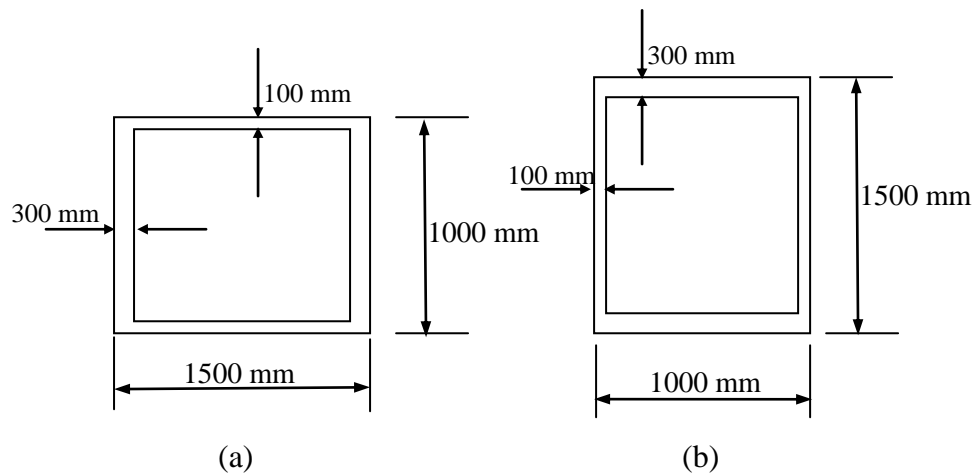

Figure 5
- (b) Girder with the sectional shape as shown in Figure 5(a) and (b) are being considered for use in a bridge deck structure. Discuss the relative stiffness and strength of the two sections shown under the action of torsional moment. Length of girder is L, modulus of rigidity for the material is G and torsional constant J is given by the following formula: